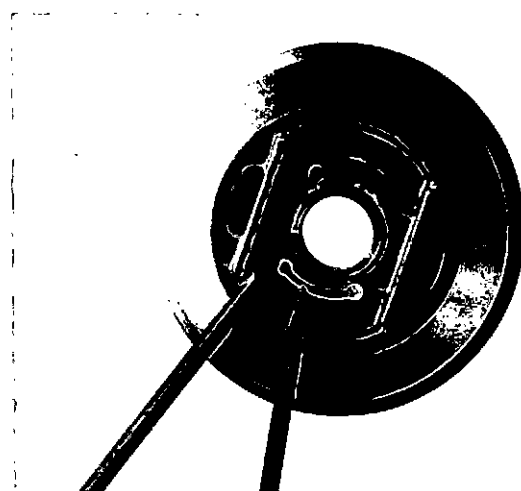

Fig. 4-18, (T465070). Inspect the oil seal plate
- #### 5. Oil Seal Plate (1), Fig. 4-18.